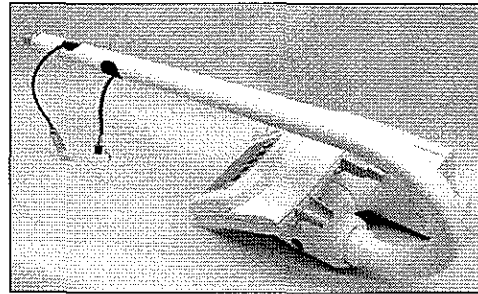

Figure 5-27f: Installing Injector
- c. Continue feeding the cables. Pull the Injector cable and its connector through the top hole of the Injector Mounting Arm and the EDA cable through the arm's lower hole that's facing up (see Figure 5-27f).